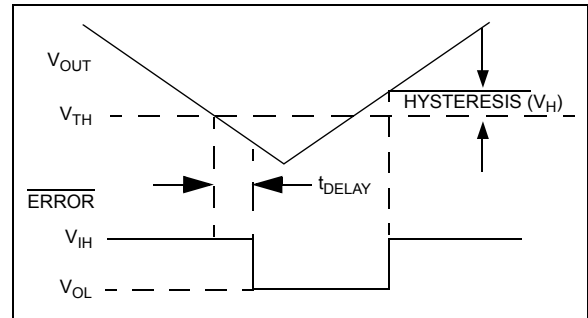

FIGURE 4-2: Error Output Operation.
\overline{ERROR} is driven low whenever V_{OUT} falls out of regulation by more than -5% (typical). This condition may be caused by low input voltage, output current limiting or thermal limiting. The \overline{ERROR} threshold is 5% below rated V_{OUT} , regardless of the programmed output voltage value (e.g. $\overline{ERROR} = V_{OL}$ at 4.75V (typ.) for a 5.0V regulator and 2.85V (typ.) for a 3.0V regulator). \overline{ERROR} output operation is shown in Figure 4-2.
- Changes to Figure 4-2.